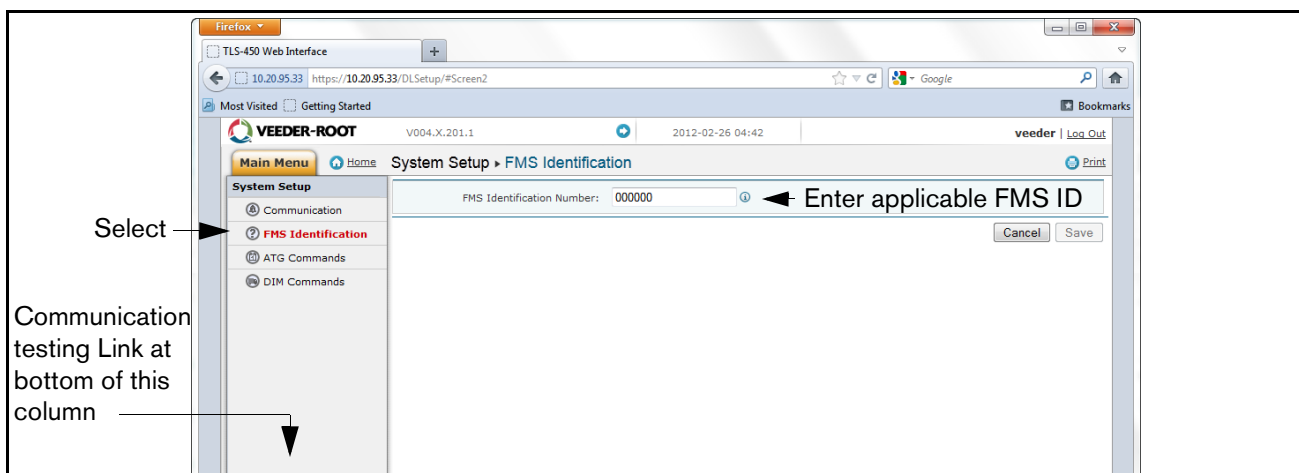

Figure 24. Example FMS ID Entry
19. Select the “FMS Identification” screen and enter the six-digit FMS site identification number. Then click on the “Save” button (see Figure 24).